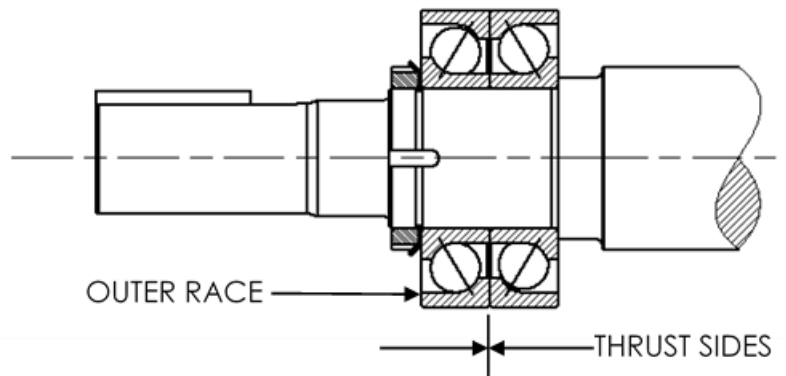

Figure 46: Duplex angular contact bearing
3. Install the duplex angular contact bearings. The bearing must be mounted back-to-back with the wider thrust sides of the outer races in contact with each other shown in Figure 46. Only bearings designed for universal mounting should be used. The SKF designation is "BEGAY".